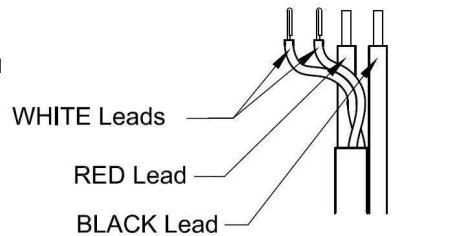

Figure 2 – Connection of battery leads and temp sensor to terminal block.
- 11) Connect the free Positive and Negative terminals of the batteries to the PCB terminals Batt+ and Batt - using the cables provided. See Figure 2.
- 12) If the batteries are housed remotely, replace the battery lead assembly (including battery temperature sensor) with an extended length assembly (provided with the separate battery box), Ensure the temperature sensor and battery connections are made according to figure 2.